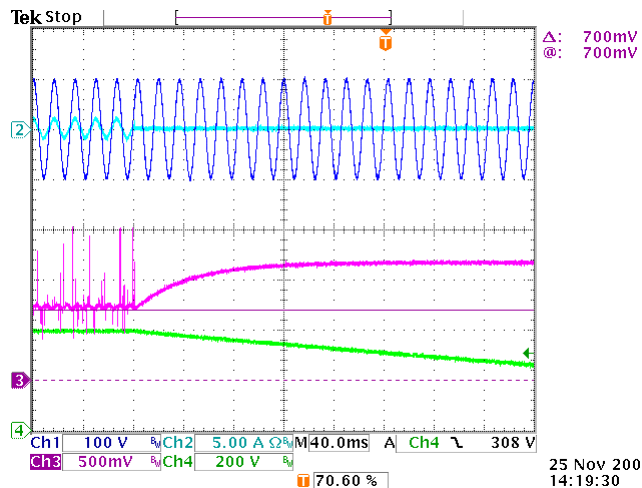

Figure 7. Brown Out Test. Decrease the input from 85 Vac slowly. Observe  $V_{ac}$  when  $V_{OUT}$  falls.
- $V_{ac}$  should be above 60  $V_{ac}$  (refer to Ch1 of Figure 7)